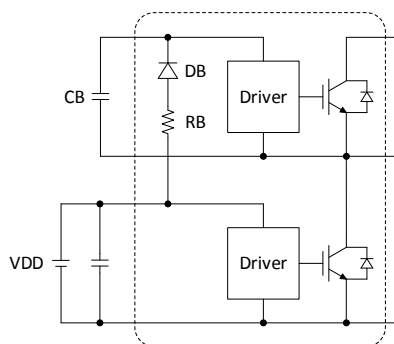

Figure 19. Bootstrap Circuit
- The VBx pins are internally connected to the positive supply of the high-side drivers. The supply needs to be floating and electrically isolated. The bootstrap circuit shown in Figure 19 forms this power supply individually for every phase. Due to integrated boot resistor and diode (RB & DB) only an external boot capacitor (CB) is required.